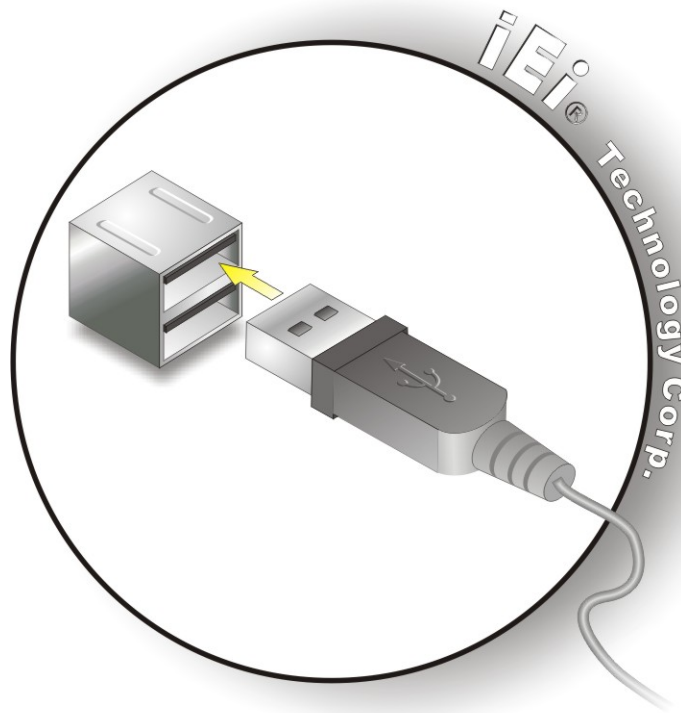

Figure 5-18: USB Connector
Step 2: Insert a USB Series "A" plug. Insert the USB Series "A" plug of a device into the USB Series "A" receptacle on the external peripheral interface. See **Figure 5-18**.